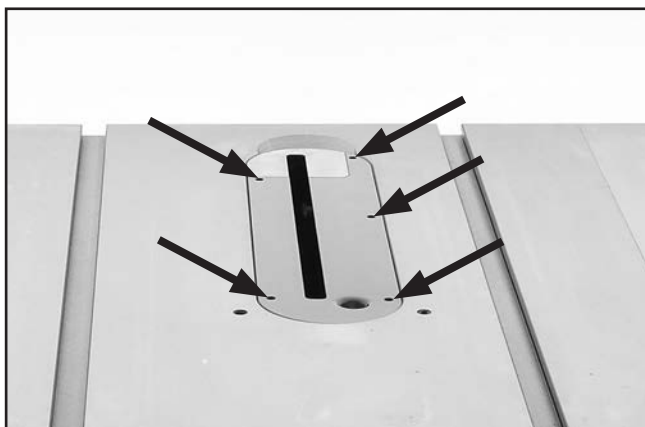

Figure 128. Location of table/dado insert holes with adjustment screws.
The table/dado insert must sit perfectly flush with the table to provide a smooth, continuous surface for the workpiece to slide over. The insert is held in place by a magnet and sits on top of five adjustment screws (see **Figure 128**).
3. Insert screwdriver through holes shown in **Figure 128** and either loosen screws to raise insert, or tighten screws to lower it. Repeat **Steps 2–3** until insert is perfectly flush with surface of table.